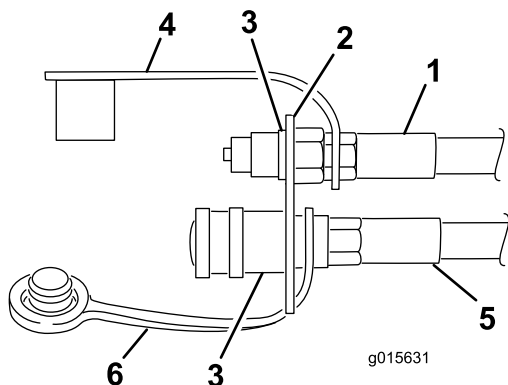

Figure 17
2. Secure the hose assembly to the female coupler (Figure 17).
3. Slide the loop end of the dust cap (Figure 17) over the end of the hydraulic hose coming from the rear valve fitting. Install the male nipple to the hose end.
4. Insert the end of the hose through the top hole in the coupler bracket (Figure 17). Secure the hose assembly to the bracket with a retaining ring.